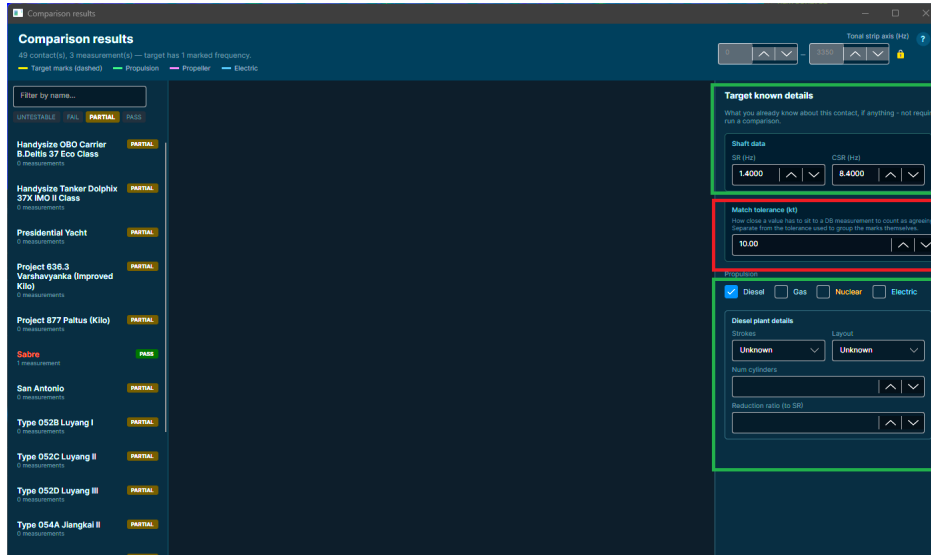

Figure 11: Partial Contacts
3. In the “**Comparison results**” panel enter any additional information you may have in the “**Target known details**” fields (Figure 11 Green Boxes).
4. If no matches reach the partial or pass criteria adjust the tolerance setting to allow for variation in accuracy in placing markers. Too broad a tolerance will cause more misidentifications which will have to be discounted by observation (Figure 11 Red Box)